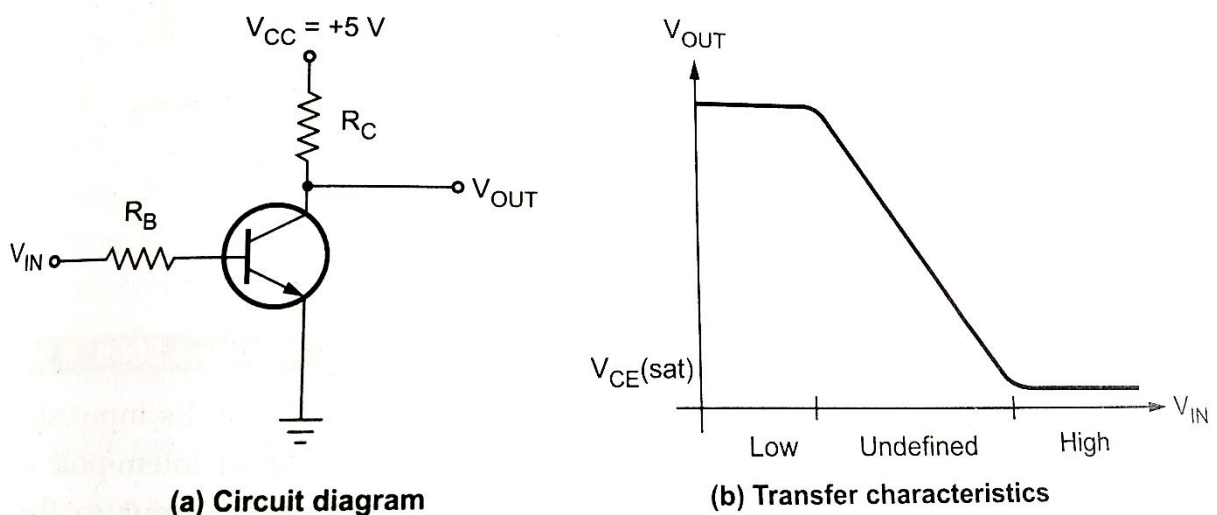

Figure 1.8: TTL inverter
- We have seen that when input voltage is LOW, the output voltage is HIGH and vice-versa. Therefore we can make a logic inverter from an npn transistor in the common emitter configuration as shown in the figure 1.8.